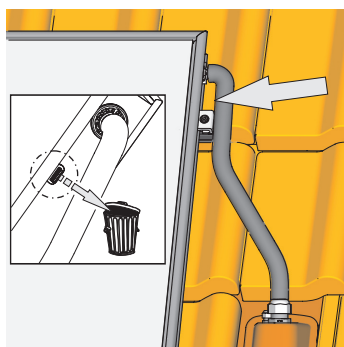

Fig. 3-46 Work step 1
1. Remove the sensor plugs (Fig 3-46).